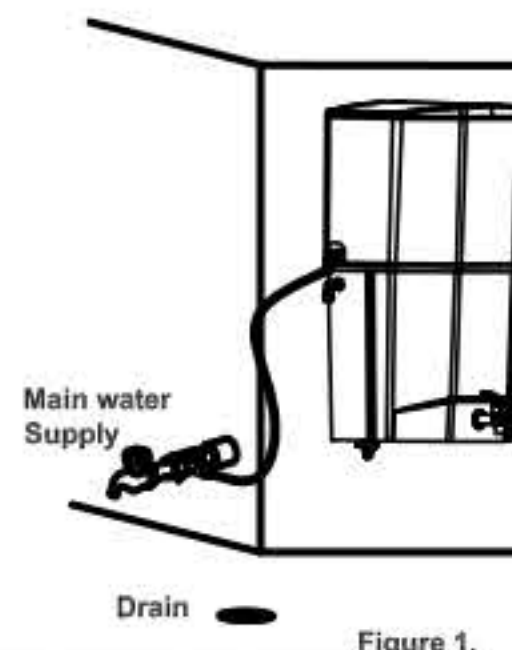

Figure 1.
1. Now connect one end of the white pipe to SS ball valve and another end to the upper push-fit elbow fitting to the left hand side of the purifier labelled as WATER IN, as shown in fig 1.